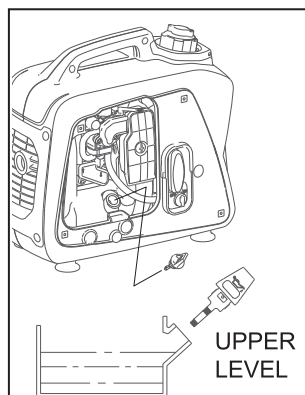

Fig. 5-2
2) CHECK ENGINE OIL (See Fig. 5-2)